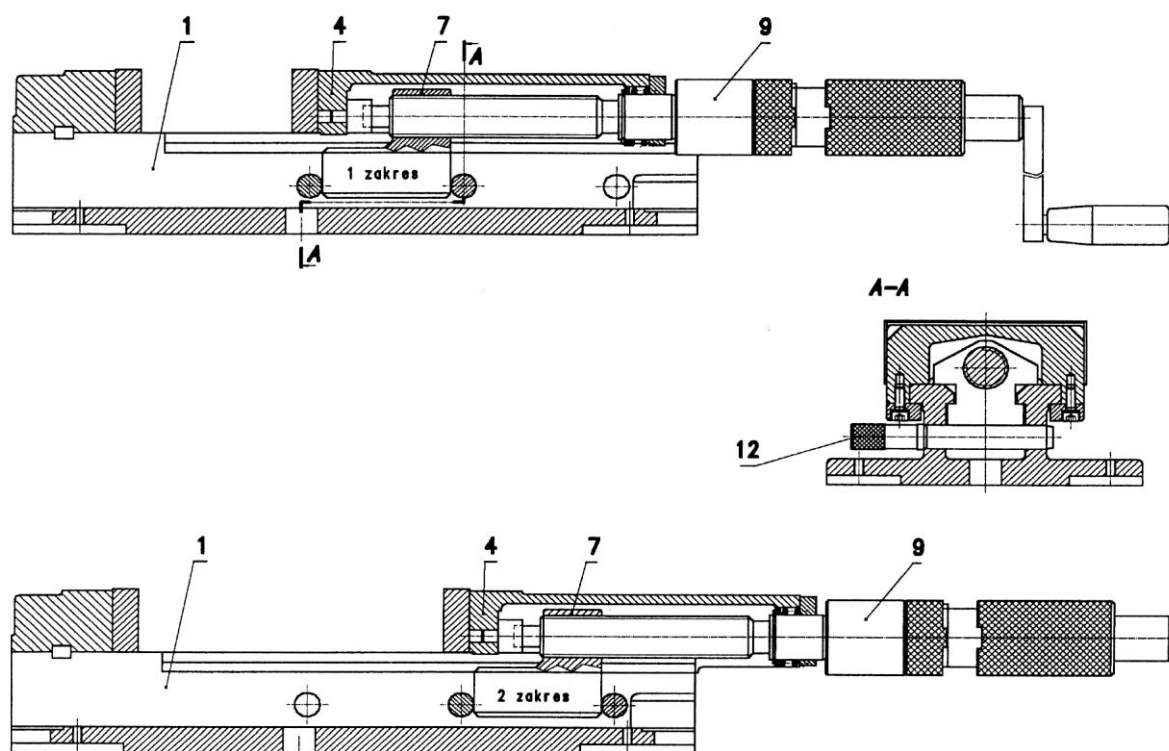

Fig. 2 Change of vice clamping range.
The moveable jaw 4 runs steplessly in body guides 1 driven by the lead screw 9 within two clamping ranges (Fig. 2).
The change of clamping range is realised as follows: remove two locking bolts 12 and reposition the holder in relation to the body from the position 1 to the position 2 or inversely, depending on need (see fig. 2) and lock with locking bolts 12.
- ▶ insert locking bolts 12 into openings in vice body (fig. 2).